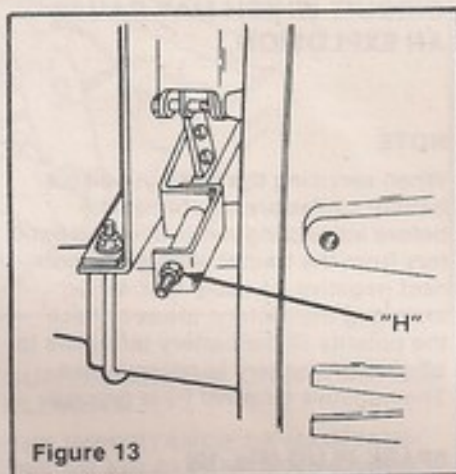

Figure 13
1. Turn hex nut (H), Figure 13 on outside of bracket and nut on inside of bracket until gap of .010 (.25mm) is achieved between brake disc and brake pad.